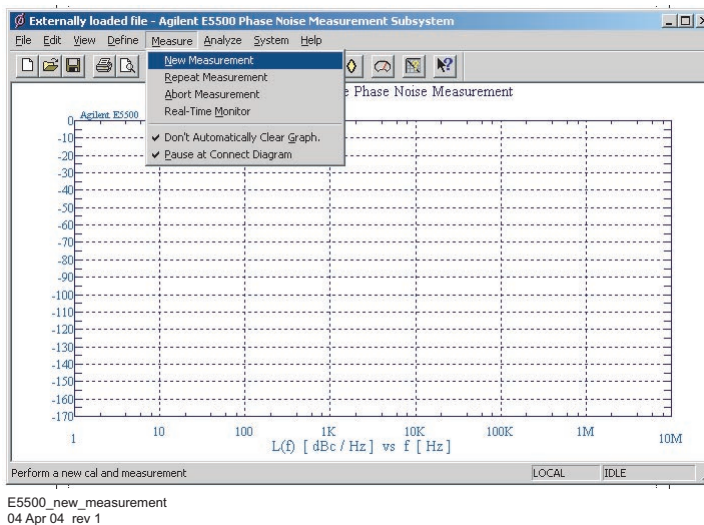

Figure 138 Selecting a new measurement
- 1 From the **Measurement** menu, choose **New Measurement**. See Figure 138.